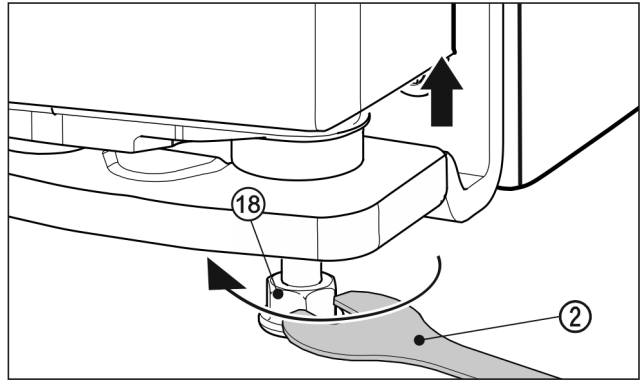

Fig. 25
- To lift the door, unscrew the adjusting foot Fig. 25 (18) clockwise using the supplied open-ended spanner Fig. 25 (2) until the foot makes contact with the floor. Then continue turning until the door is adjusted to the right height. When delivered, the bearing pin is completely screwed in.